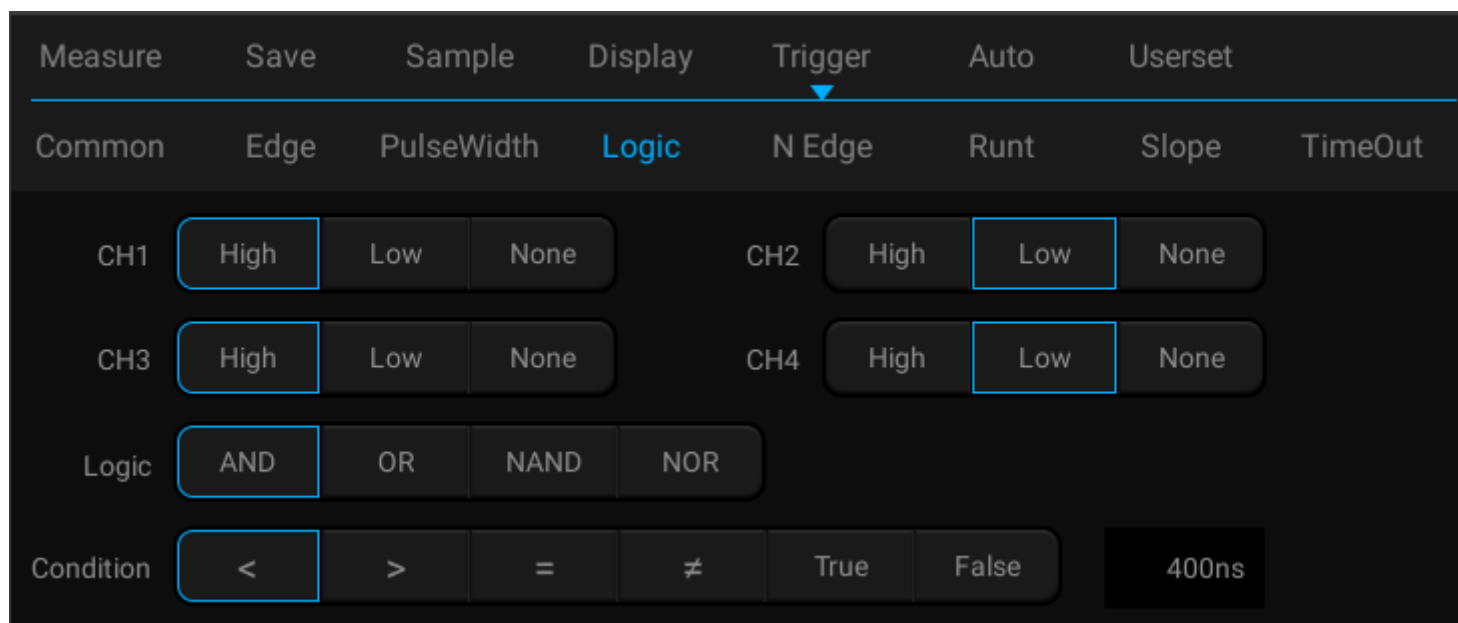

Figure 7-21 Logic Trigger Setting Menu
- 1) Tap “Trigger” on the main menu to open the trigger menu, select logic trigger in the trigger type, and set the logic trigger as follows, as shown in Figure 7-21: